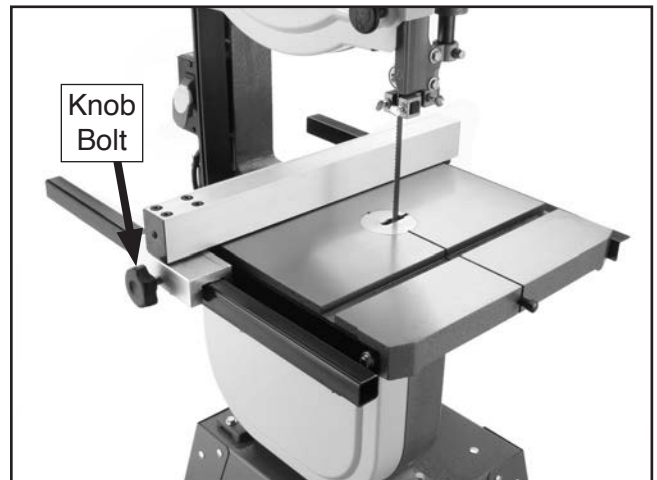

Figure 27. Correctly installed fence.
6. Secure the fence with the M10-1.5 x 25 knob bolt (see **Figure 27**).